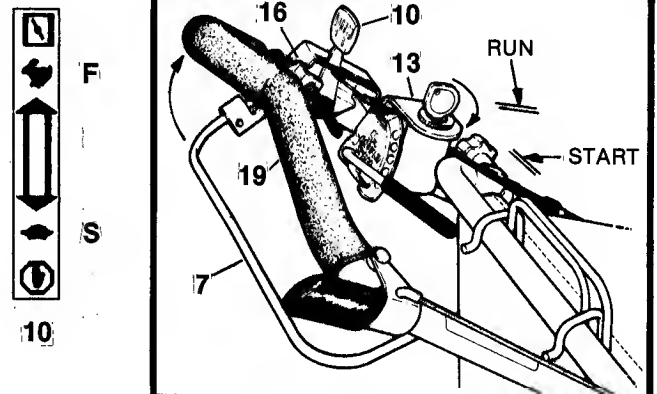

FIG. 4-**ELECTRIC START**
ELECTRIC START: The **KEY/IGNITION** switch (13) has two positions - **RUN** & **START**. The engine **CAN NOT** be stopped at the switch! Stopping the engine is accomplished by moving the **ENGINE CONTROL** to the **STOP** position. Refer to FIG. 4.
1. Move **ENGINE CONTROL** lever (10) to **START (CHOKE)** position.